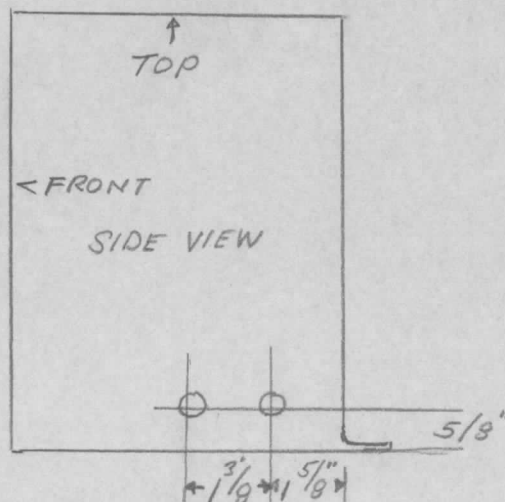

FIGURE 1
8. Drill two 13/16 inch holes on both sides of the capacitor mounting bracket assembly. See figure 1 for exact location.